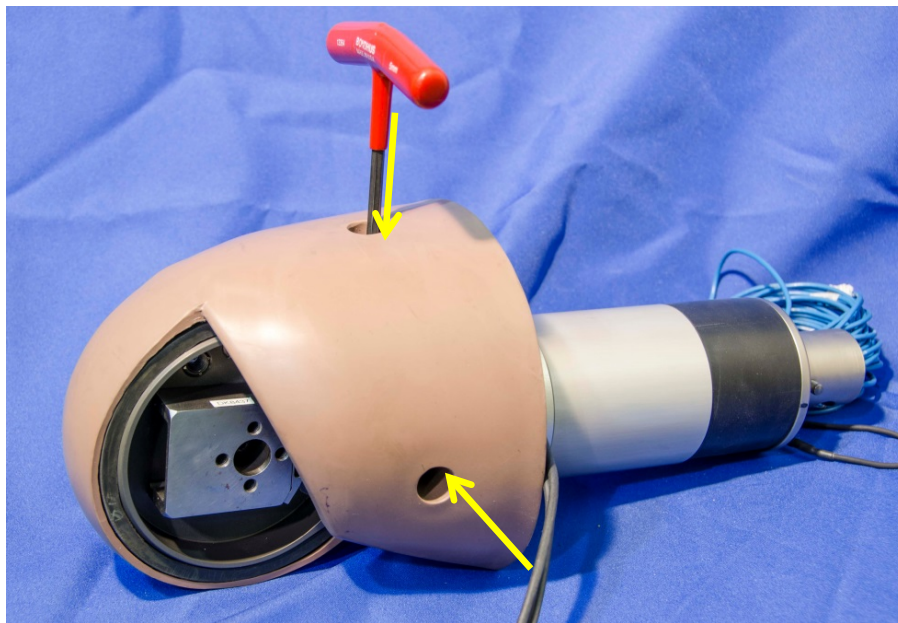

Figure 11-23. Connect femur load cell to knee cap assembly
- 11.2.2.14 Assemble the Femur Load Cell (SA572-S120) (or Structural Replacement (W50-51060)) to the Left Knee Cap Assembly (472-5300) using four of the modified shoulder screws (W50-61042) (Figure 11-23). With the roll pin protruding into the counter bore, the structural replacement or load cell, can only be installed in one position, down and to the left, when looking at the top of the knee cap assembly.